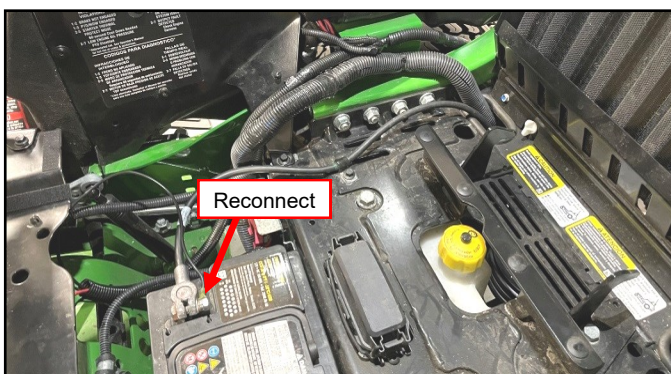
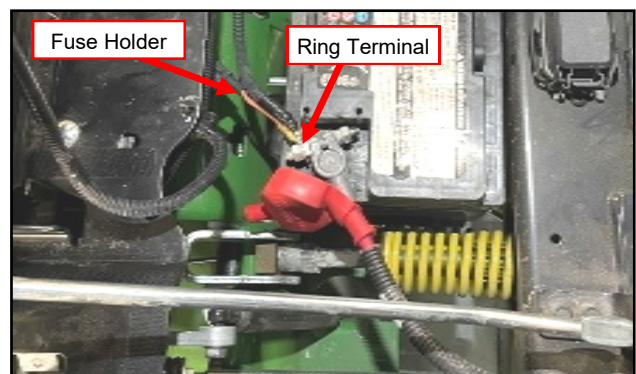

Fig. 2.30b (Run Harness to (-) Terminal on Battery)
Fig. 2.30a (Run Harness to (+) Terminal on Battery)
2.30 Run the harness (fuse holder side) to the Positive Terminal on the Vehicle's battery per Figure 2.30a. Next, run the black wire ring terminal to the disconnected battery wire and install onto the ground lug. Reconnect lug onto the battery per Figure 2.30b.